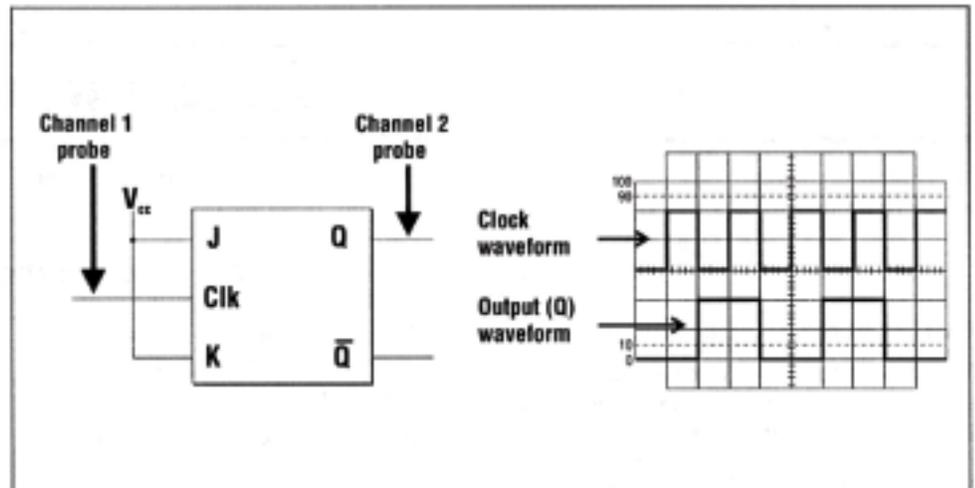

Fig. 5 A simple dual-trace display
The capability of an oscilloscope to display two simultaneous waveforms, dual-trace mode, is a very useful feature. In observing simultaneous waveforms on channels 1 and 2, the waveforms are usually related in frequency, or one of the waveforms is synchronized to the other, although the basic frequencies are different. For example, Fig. 5 depicts the waveforms associated with a simple flip-flop circuit, wherein the first trace shows the clock waveform and the second the output waveform. The scope clearly shows that the output is a divide-by-two of the clock, and that output changes always take place on the negative-going edge of the clock.
- Adjust the channel 1 and 2 vertical position controls to position the two traces as desired. Channel 1 is usually positioned above channel 2, as in Fig. 5.